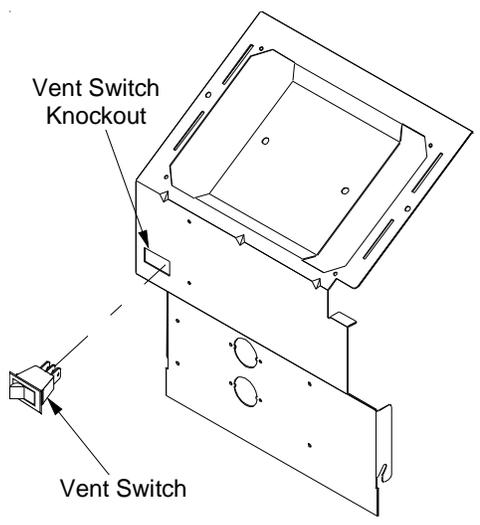

Figure 12
5. Remove the knockout for the vent switch (Figure 12) located in the control panel and snap the vent switch in the knockout hole with the terminals inside the control panel compartment. The numbers on the switch should be facing toward the control board. Place the supplied label just above the switch.